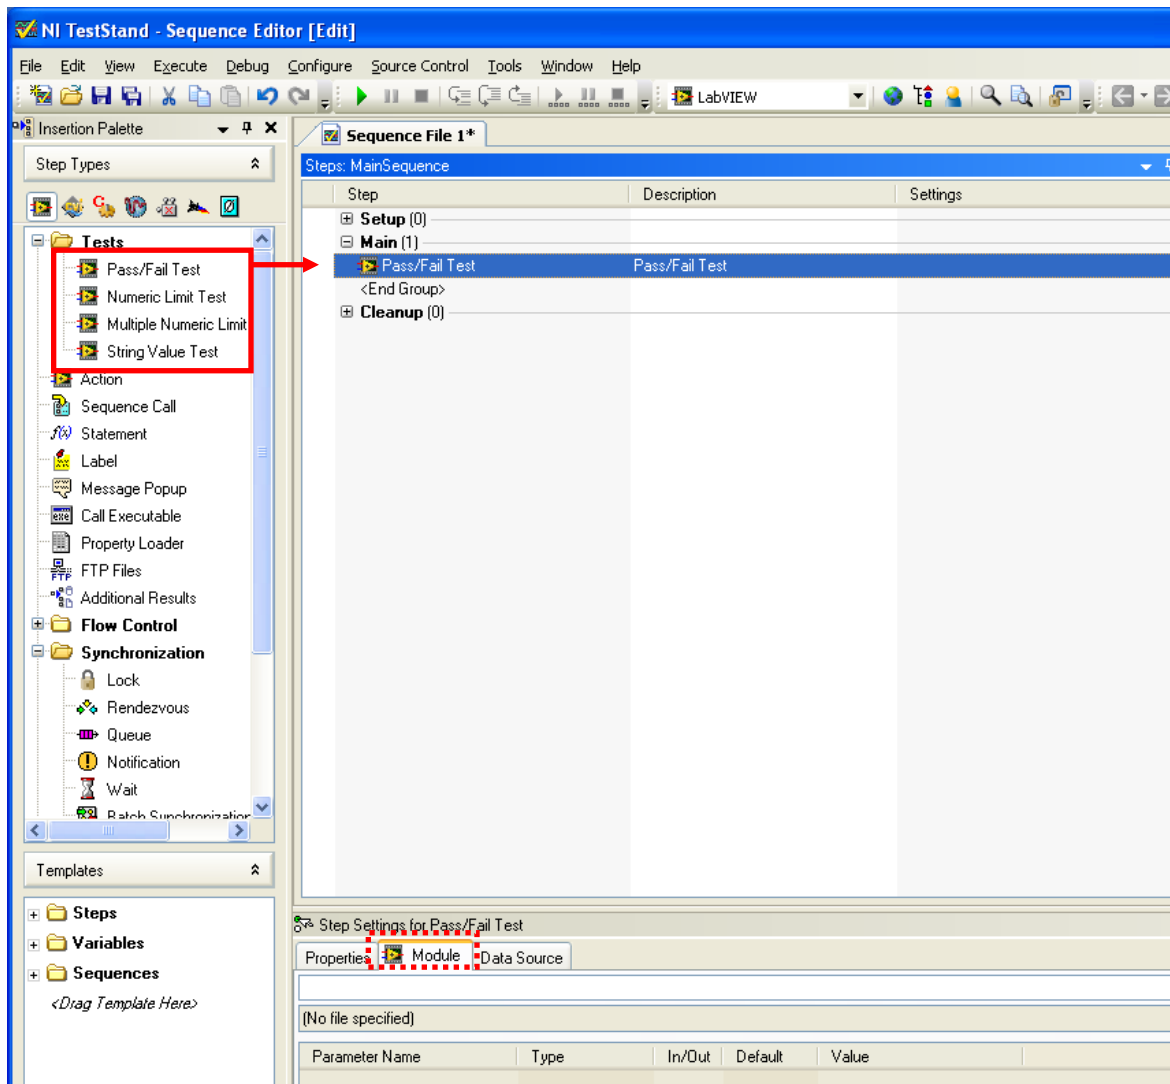

Figure 5 Addition of Filter Test step
6. Expand the **Tests** group in the **Insertion Palette**, highlighted with the solid line in Figure 5, to show all the available tests.
7. Drag the **Pass/Fail** test from Insertion Palette to the **MainSequence** as shown in Figure 5.
- a. Select the **Module** tab in **Step Settings** pane highlighted with a dashed line in Figure 5.